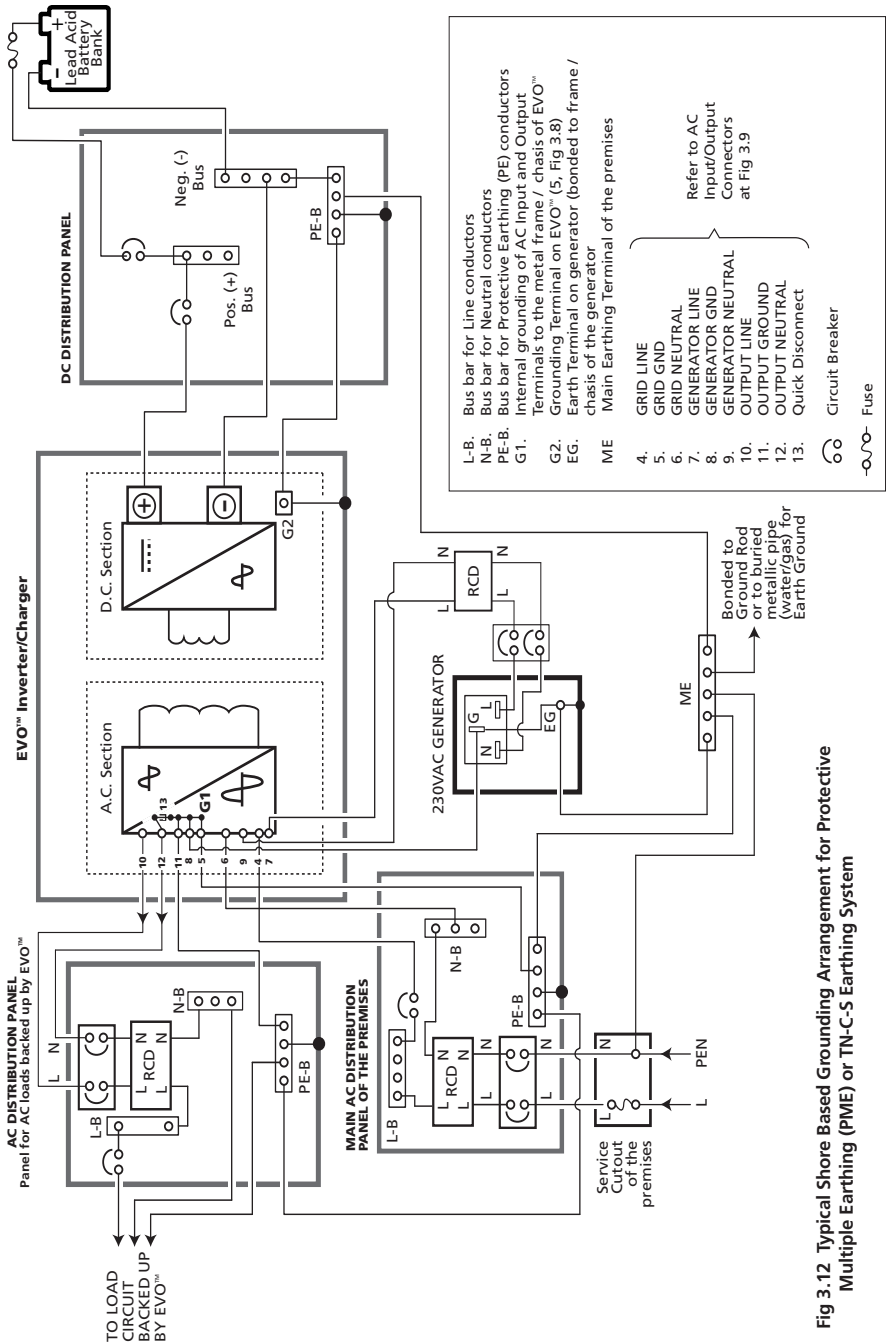

Fig 3.12 Typical Shore Based Grounding Arrangement for Protective Multiple Earthing (PME) or TN-C-S Earthing System
Schematic at Fig 3.12 illustrates typical grounding arrangement of EVO™ Series for shore based installations with TN-C-S / Protective Multiple Earthing (PME) Power Distribution System. Schematic at Fig. 3.14 shows grounding arrangement in typical mobile installation. Internally, EVO™ consists of AC and DC Sections isolated by a transformer (Fig 3.12). Both these sections are required to be grounded appropriately.
For Typical Shore Based Installations using TN-C-S / PME Distribution System (Please see Fig. 3.12)
- (i) The Grounding Terminal “G” of the 230VAC, 16A Mains Inlet / Hook-up Connector (ii) bus bar “PE-B” for Protective Earth (PE) conductors of the Distribution Panel for loads backed up by EVO™ and (iii) the metallic frame / Earthing Terminal “EG” of the generator are all electrically bonded to the Main Earthing Terminal “ME” of the motorhome / caravan which, in turn, is bonded to the “chassis ”
- The terminals for AC Input Ground of EVO™ {Grid GND (5) and GEN GND (8)} and the terminal for AC Output Ground {OUTUT GND (11)} of EVO™ are all internally bonded to the metal frame / chassis of the EVO™ (This internal bonding is shown as “G1” in Fig 3.12)
As described at Section 3.13, the metal frame / chassis of the EVO™ (Fig 3.12, G1) is bonded to the Main Earthing Terminal "ME" for AC side grounding. It may be argued that if the metal frame / chassis of EVO™ is already bonded to Main Earthing Terminal "ME" for AC side grounding, why is it necessary to provide an additional DC side grounding wiring? (Wiring that bonds DC Grounding Terminals "GE", "PE-B" and "ME" in Fig 3.1). If separate thicker grounding wire of the same size as the battery cable was not provided for the DC side grounding and there was a ground fault in the battery circuit, very large DC fault current from Battery+ would flow through the smaller size AC grounding wires to the Battery Negative through the Main Earthing Terminal "ME". These smaller size AC side grounding wires would be damaged due to very high DC side fault current (150A to 400A depending on the Model of the EVO™ being used).
DC Side Grounding Arrangement for Typical Shore Based Installations using Protective Multiple Earthing (PME) or "TN-C-S" Earthing System (Please refer to Fig. 3.12)